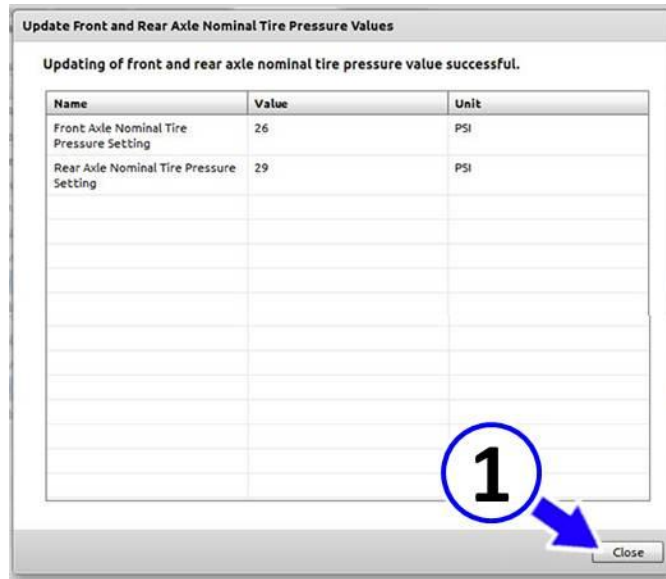

Fig. 7 New Tire Pressure Values
9. The window shown in (Fig. 7) will display the new front and rear tires pressure values stored in the TPMS control unit. Confirm that the pressure values are set to 26 psi for the front tires and 29 psi for the rear tires.
10. Press the “Close” button (1) as shown in (Fig. 7).